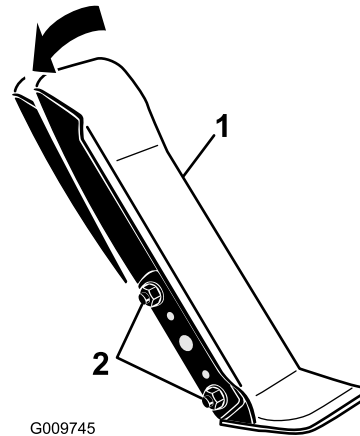

Figure 90
1. Loosen the 2 nuts and bolts securing the left side of the traction pedal to the bracket (Figure 90).
2. Pivot the pedal to the desired operating angle and tighten the nuts (Figure 90).